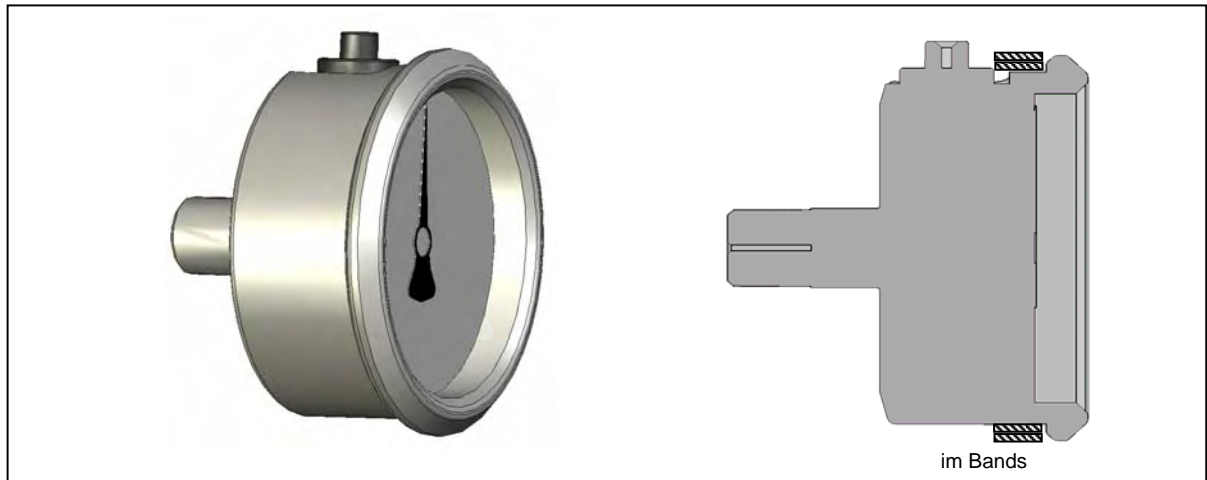

Figure 13 : Shim Band Placement for Gauge with Thin Lip
- i) Refer to the cross-section view in Figure 13 for an example of shim band placement on this type of gauge.
- i) Refer to Figure 13 for an example of this situation.